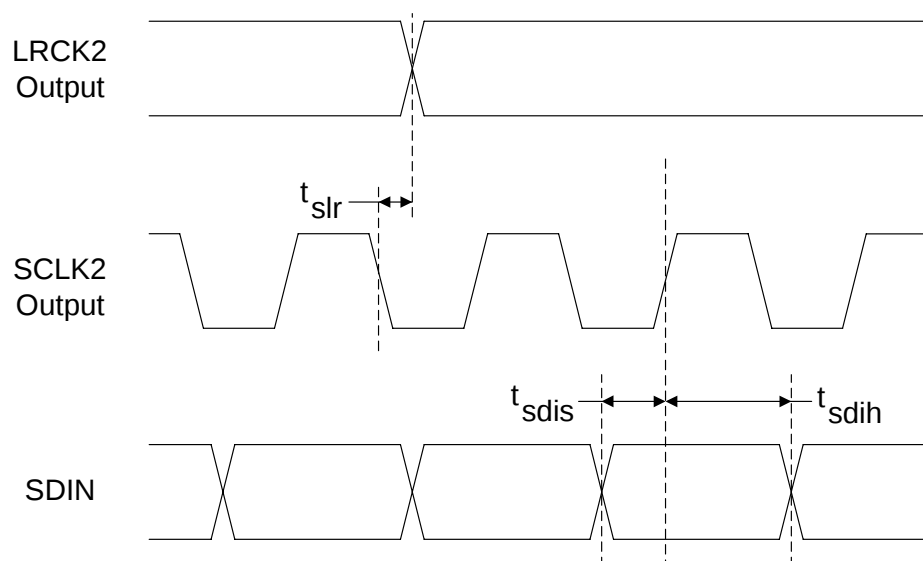
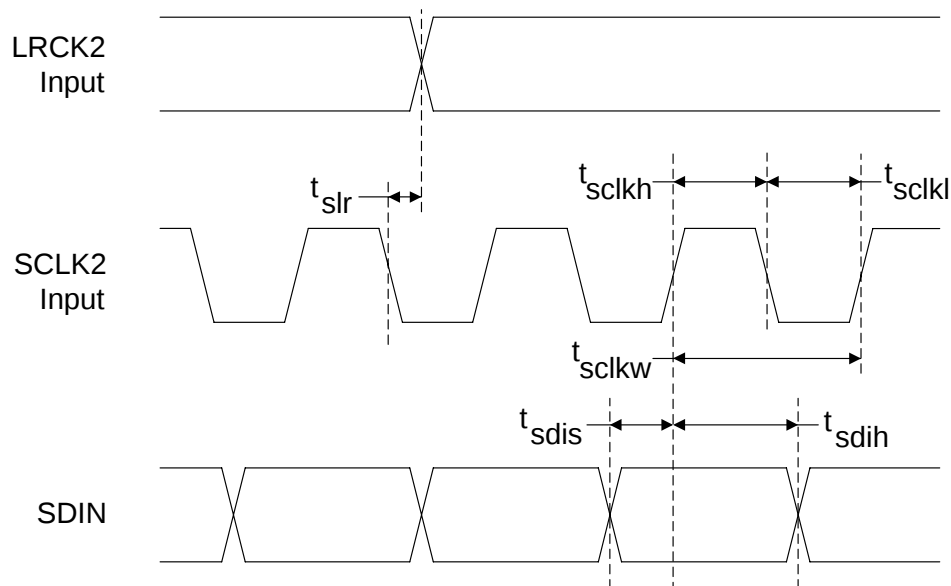

Figure 5. Master Mode Timing - Serial Audio Port 2
Figure 6. Slave Mode Timing - Serial Audio Port 2
28. See Figure 5 and Figure 6 on page 26.